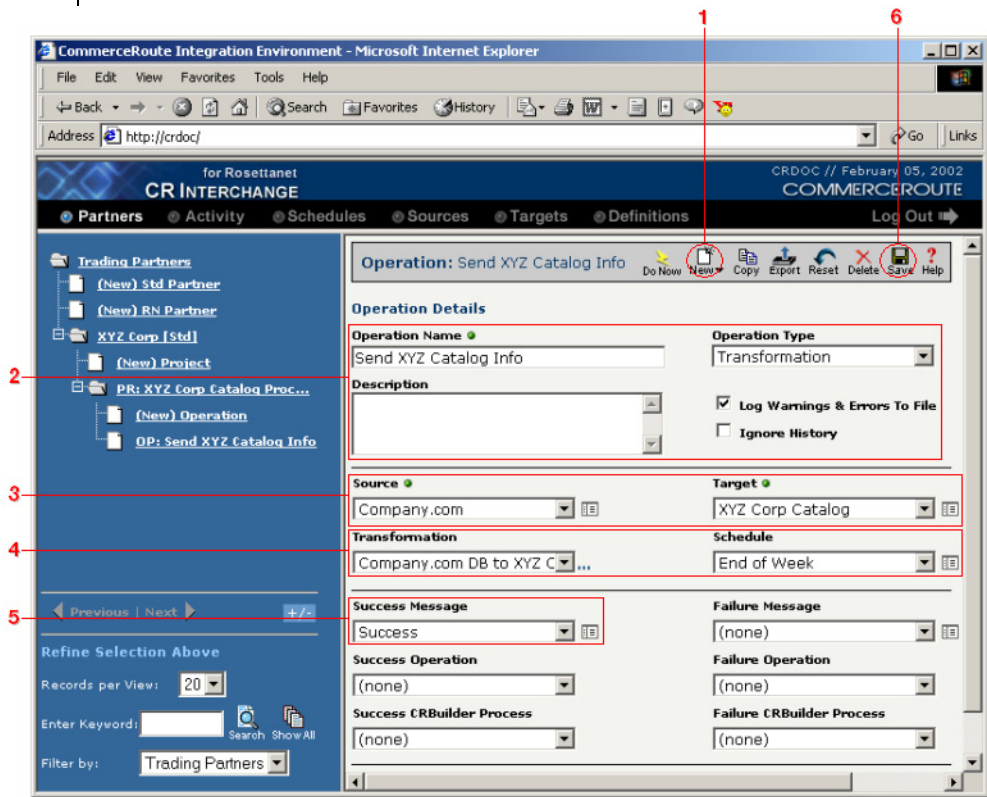

Figure 3-20. The completed Send XYZ Corp Catalog Info operation.
- 6 When you've finished, click **Save** in the toolbar to save your new operation. You should see a new file icon appear within your project with this operation's name. Compare your operation to Figure 3-20 below.